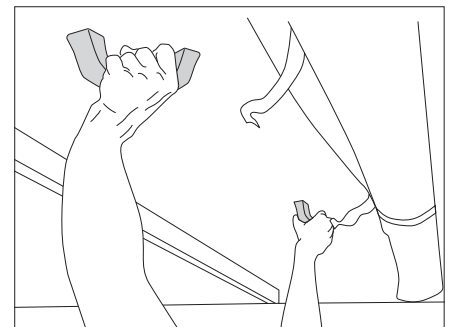

Fig. 20 Pushing up the pop-up roof
- Hold the grips with both hands and push the pop-up roof upwards (Fig. 20).